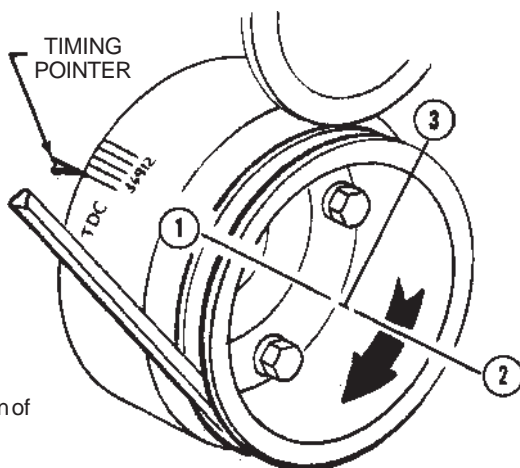

Fig. 18 Position of Crankshaft for Checking and Adjusting Valve Clearance
3. With the No. 1 piston on TDC at the end of the compression stroke, (POSITION NO. 1 in Fig. 18) check the following valves:
4. Rotate the crankshaft to POSITION NO. 2 in Fig. 18 and check the following valves:
5. Rotate the crankshaft to POSITION NO. 3 in Fig. 18 and check the following valves:
7. With the No. 1 piston on TDC at the end of the compression stroke, POSITION NO. 1 in Fig 18, inspect the stud nut and install the stud nut on the following valves:
8. Rotate the crankshaft to POSITION NO. 2 in Fig. 18. Inspect and install the stud nut on the following valves.
9. Rotate the crankshaft to POSITION NO. 3 in Fig. 18. Inspect and install the stud nut on the following valves: